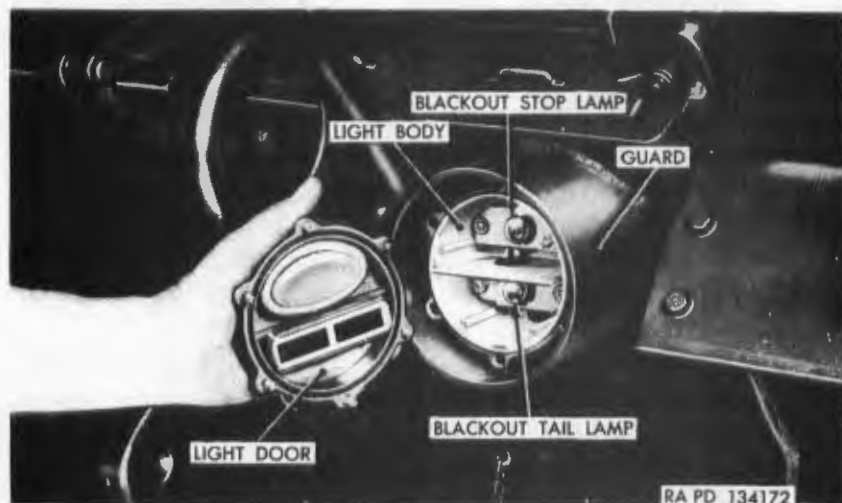

Figure 154. Removing right taillight door.
- (1) *Removal.* Unscrew six roundhead screws with retaining rings which secure the taillight door on the light body and remove door (fig. 154). Press in on lamp to be re-